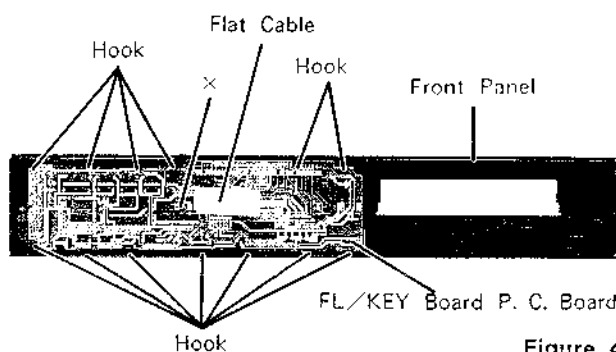

Figure 4
- (2) Remove a screw marked "x" as shown in Figure 4.
- (3) Remove thirteen hooks as shown in Figure 4.